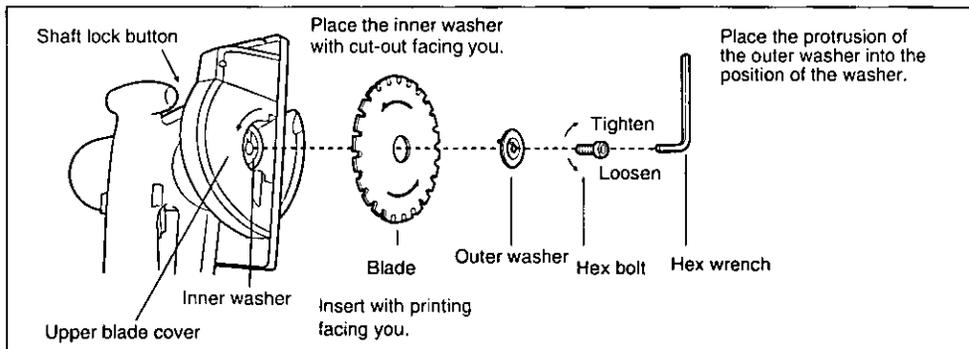

Fig. 11
Make sure the hex bolt is tightened securely. (See Fig. 11 page 16)
4. Install the blade as illustrated in Fig. 11 (page 16). Make sure that both the direction arrow on the blade and the direction arrow on the upper blade cover point in the same direction.